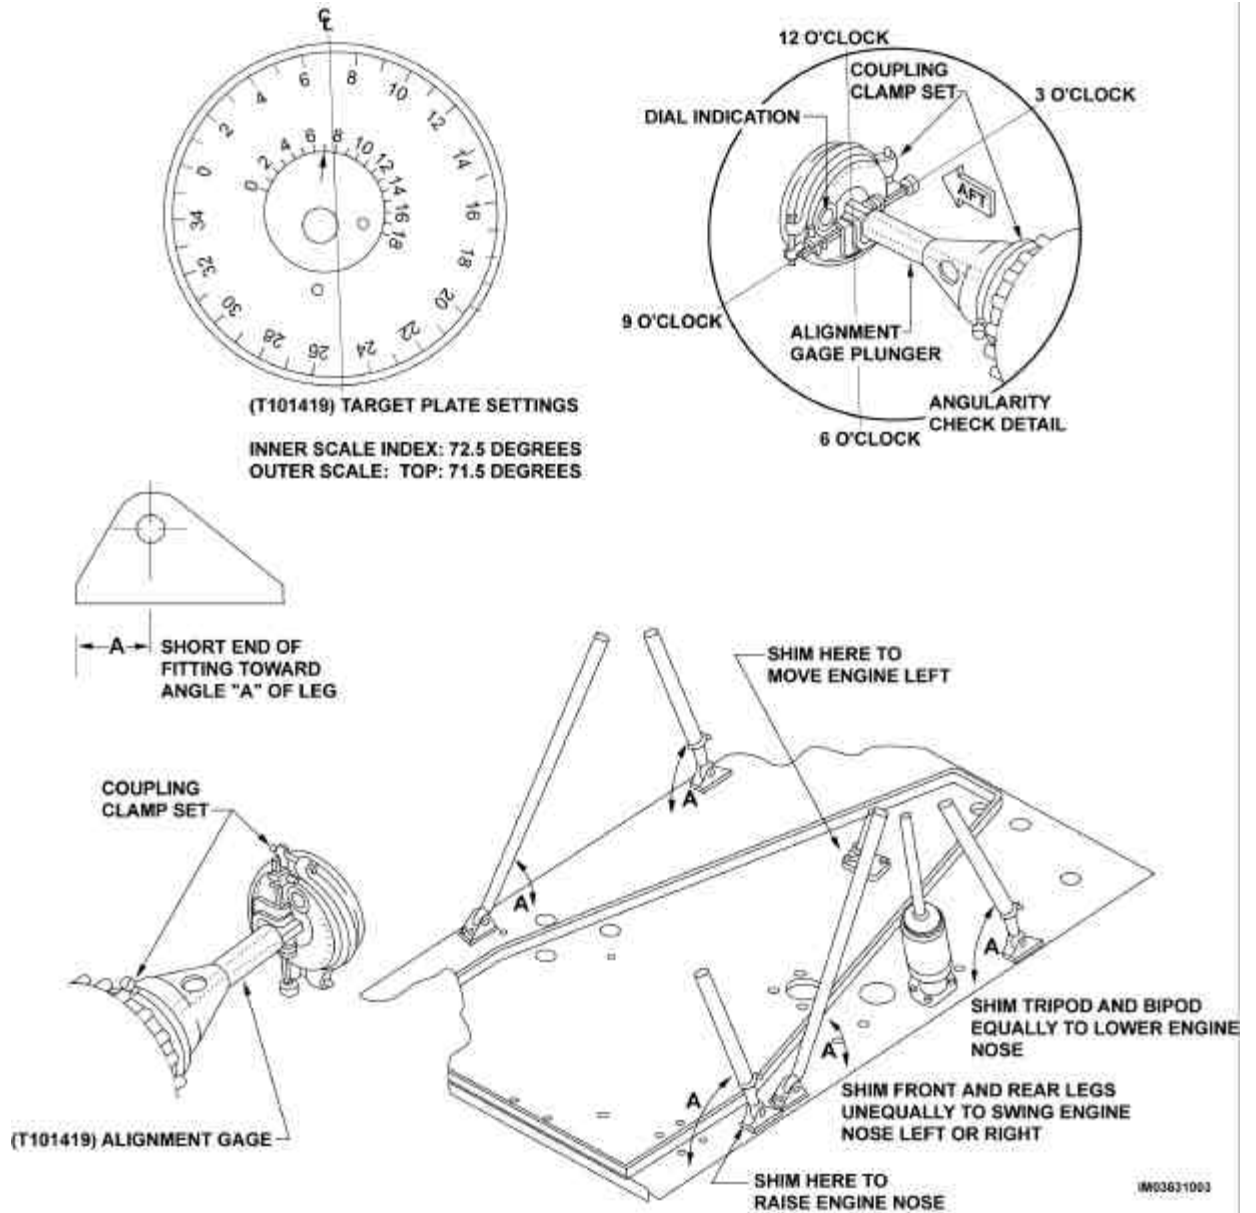

Figure 3. Engine to Transmission Driveshaft Alignment
17. Set target plate of engine-to-transmission driveshaft alignment tool set (T101419) with arrow of centre disc indexed at 72.5 degrees on inner scale of outer plate. Secure by tightening two washer-head screws at back of plate. (Figure 3.)
18. Install target plate on engine output shaft adapter. (Figure 3.)
32. Reinstall engine support fittings with short end of fitting facing toward angle A. (Figure 3). Check support fittings screws and bolts for correct length.